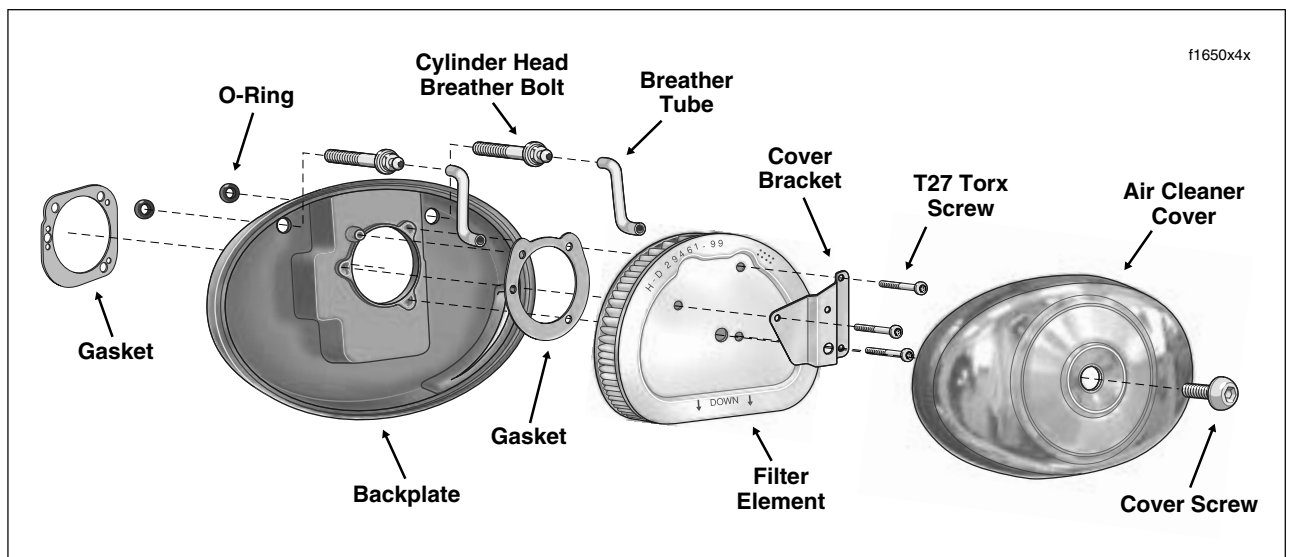

Figure 1-15. Air Cleaner Assembly
1. Remove large allen head socket screw in center of air cleaner cover. Remove air cleaner cover with rubber seal. See Figure 1-15.